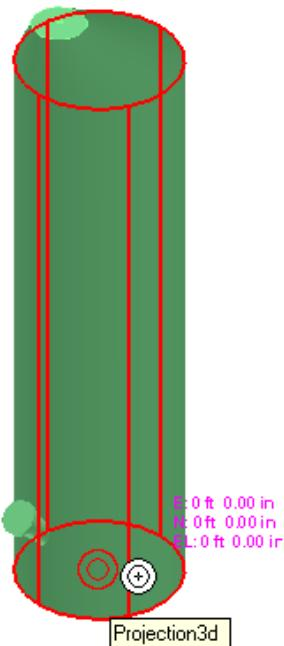

Figure 4: Repositioning of the Reference Point
5. Place the **PinPoint** target at the bottom center of the catch basin, as shown in Figure 4.